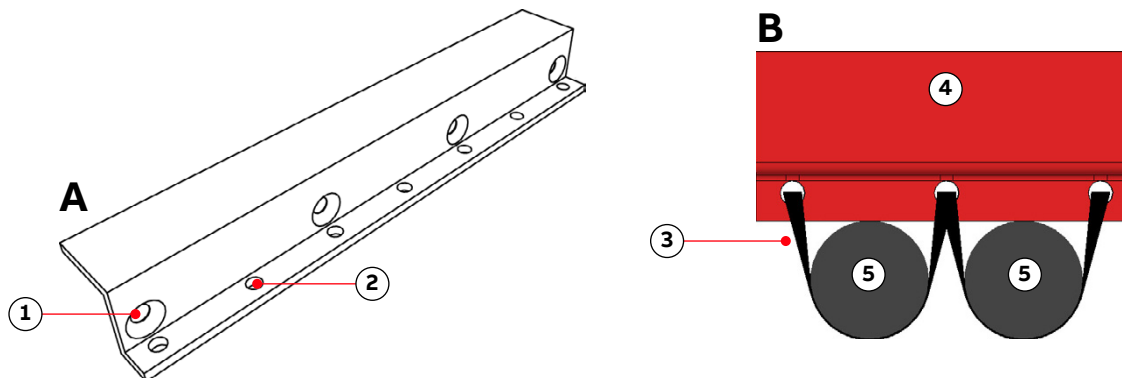

Figure 7-8: Cable spacer (A) and cable spacer with cables attached with cable ties (B)
- Use plastic cable ties, which you can insert through designated holes on the cable spacers (Fig. 7-8), to hold the cables in place.